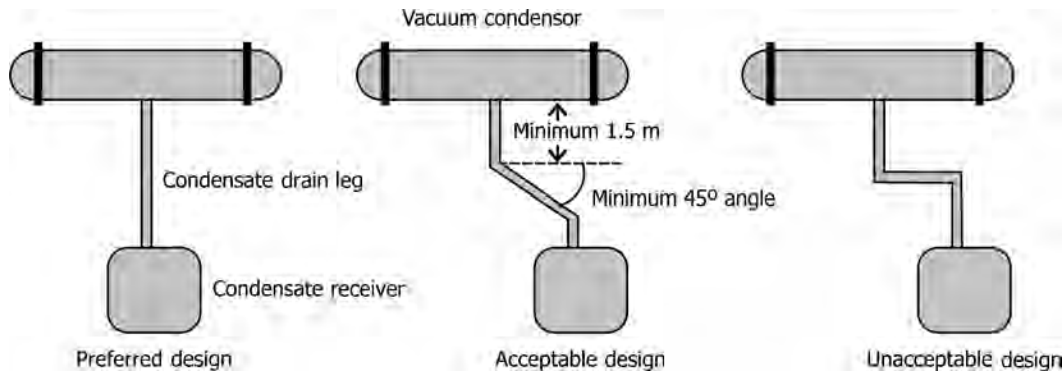

FIGURE 5.35 Condensate drain leg layouts.
- Figure 5.35 gives typical condensate drain leg layouts.